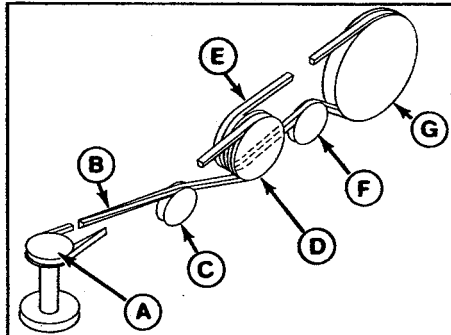

Figure 19. Belt Diagram
11. Pull the rear idler pulley down, and slip the lower belt section on top of the pulley. See the belt diagram (figure 19).
14. Place the back side of the belt onto the front idler pulley and the V side of the belt in the variator pulley groove. Refer to the belt diagram (figure 19).